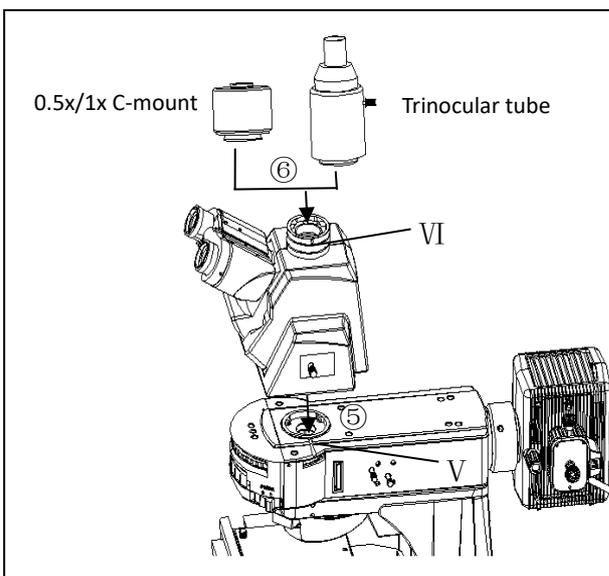

Fig.6
**4-2-5 Install observation head and C-mount of photographic accessories 0.5X/1X (Fig.6)**
The observation head is loaded into the circular dovetail of the microscope according to the path (Num⑤) shown in ordinal shape in figure 6, then tighten the screw of V with universal wrench to fasten observation head.
The interface of photographic attachment 0.5x / 1x C-mount is loaded into the interface of the three-item attachment of observation header according to the path specified in the serial number ⑥ in figure 6, then tighten the screw of VI with universal wrench to fasten photo attachments.